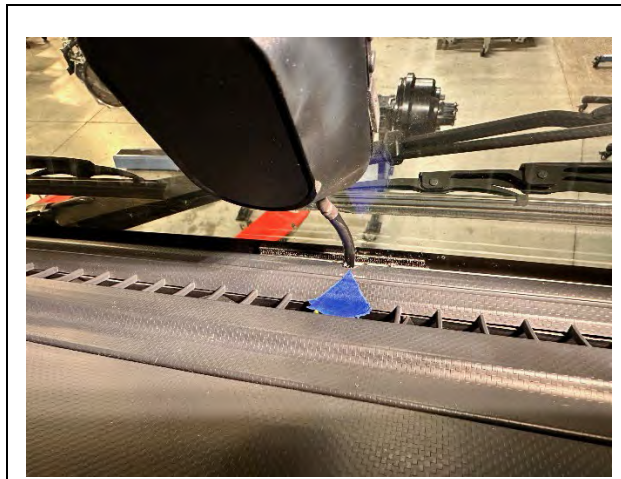

Figure 45
49. Using one (1) inch of masking tape, mark the location near the center of the instrument panel where the Mobileye camera cable goes under the instrument panel. (See Figure 45.)